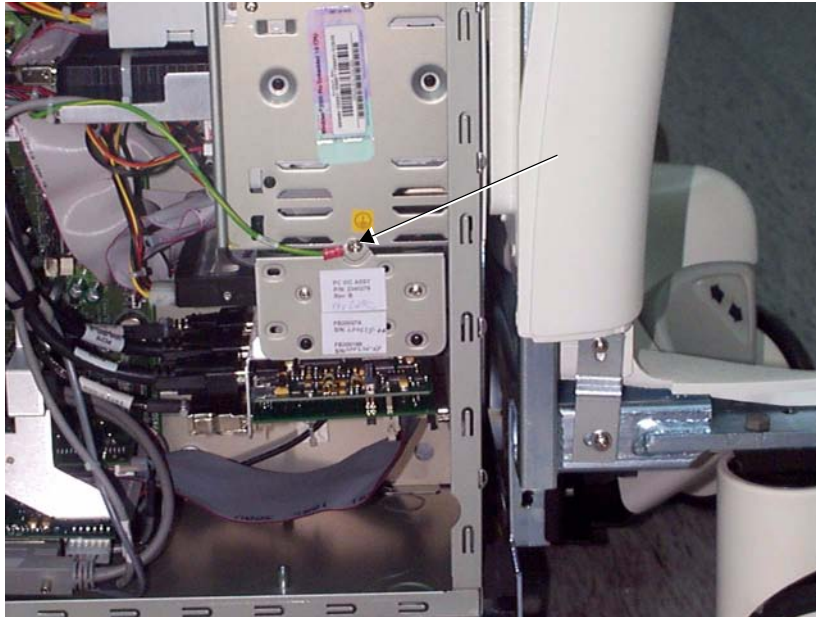

Figure 8-74 PC-VIC
- 3.) Remove the screw that holds the Ground cable and PC-VIC in position (as shown in Figure 8-74
- 5.) Return and tighten the screw that holds the PC-VIC in position (as shown in Figure 8-74 on page 8-88).